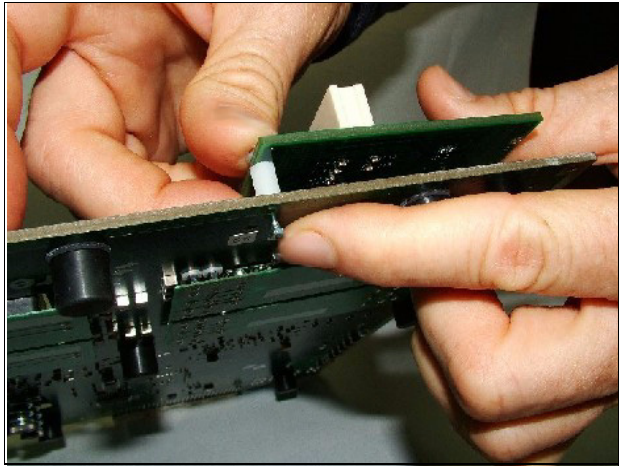

**Figure 2-10. PCI Adaptor**
8. If you wish to work with a module inserted in a PCI adaptor, follow the illustrations in Figure 2-11, Figure 2-12, and Figure 2-13 to fasten up to three PCI adaptors (one shown in Figure 2-10) to the PIB: